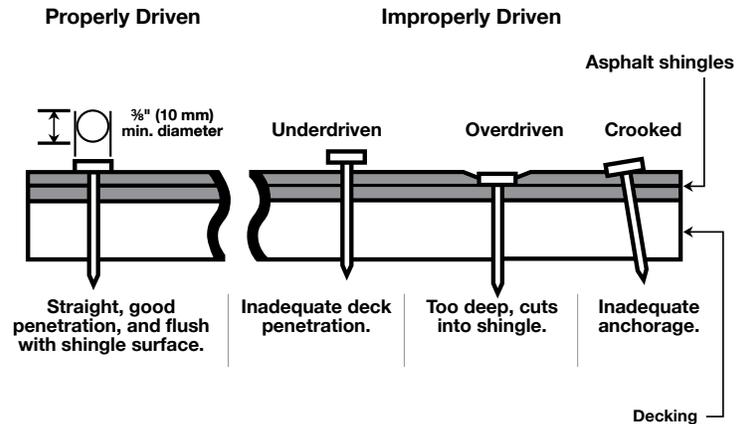

Figure 2 - Nailing Instructions
**The use of staples is not an approved fastening method. (See Figure 2)**